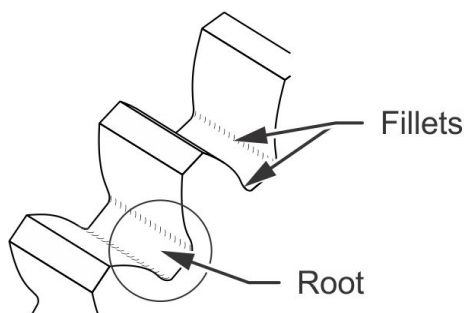

Figure 2. Camshaft Gear Inspection Surfaces, typical
- a. Clean the camshaft gear of all oil and rotate the crankshaft through two complete revolutions while inspecting all visible camshaft gear surfaces for physical damage, fractures, or cracks. Use supplemental lighting and magnification (10X power) as required to perform inspection. Pay particular attention to the gear tooth root and fillets (see Figure 2).